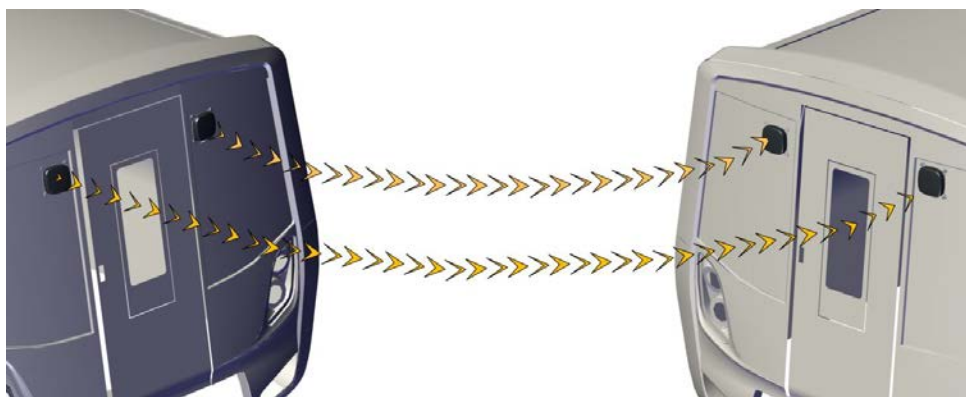

Figure 2-2: Two units on each car
- We recommend using two units on each car (see Figure 2-2, Two units on each car).